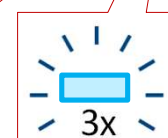

Fig.17
- The Blue LED on the heater starts flashing **three** times to confirm the operation Fig.17